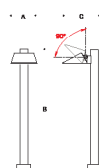

Figure 1: 79817 anchor kit installation:
2. Assemble anchorage kit. Unscrew the (3) 5/16" hex bolts from the female couplers. Remove each hex bolt and washer. Align each anchor bolt with the hole in the template. Attach each anchor bolt to the template by replacing the washer and hex bolt and tightening. Do not remove nuts and washers from bottom of anchor bolt; this provides the pullout force. See Figure 1.
- A. Attach template to forming or cross bracing using the (2) nail holes provided in the template. Level template properly. Pour concrete.
Note: Bollard has free rotation for aiming. However, to avoid set screw aligning with notch in bollard base, recommended anchor orientation is shown in Figure 1.